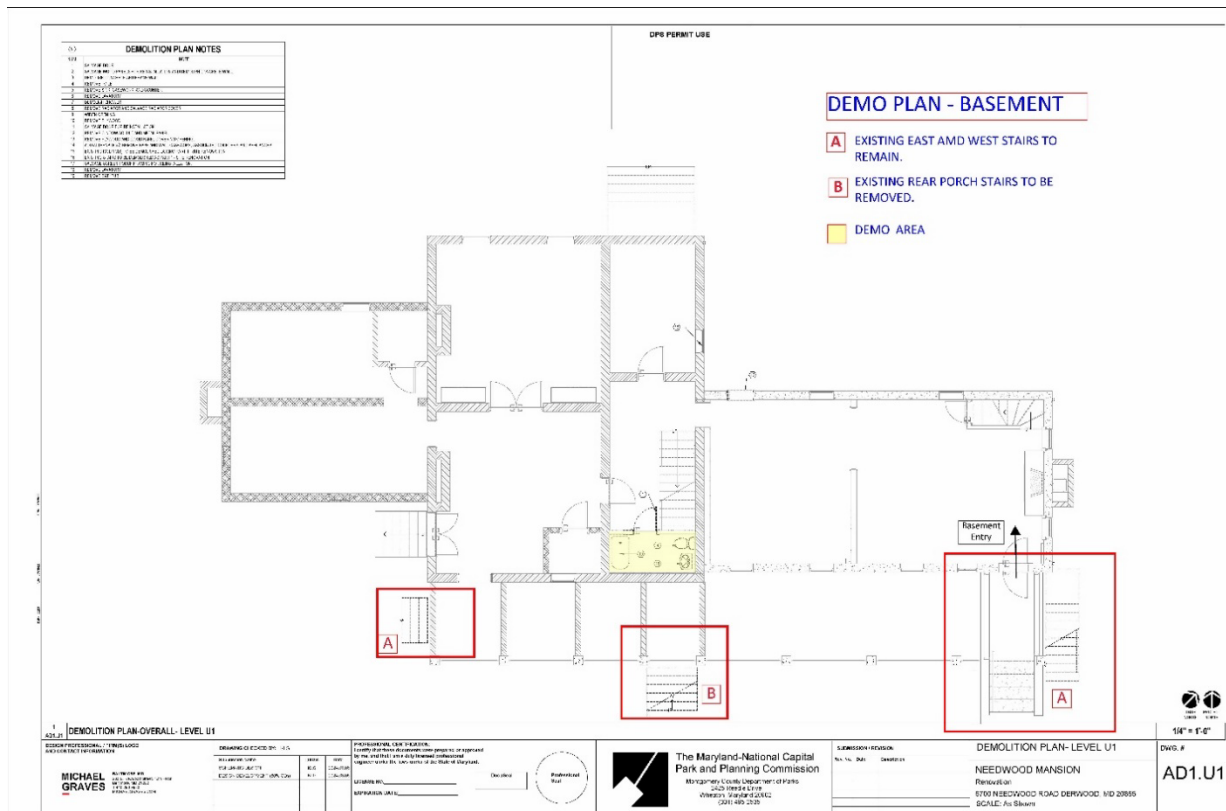

Figure 12: The central stairs on the rear elevation (B) will be removed to accommodate the proposed ramp.
- the removal of the rear porch stairs (*Figures 12 and 14*);
- Removal of the rear porch stairs (*Figure 12 and 14*);